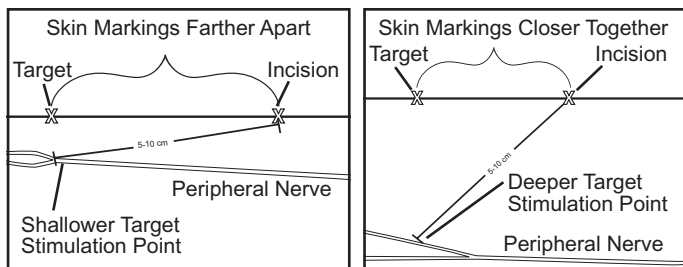

Figure 14: Establish Skin Markings
11. Identify the implant site for the StimRouter Lead. Sterile prep and drape the skin using institutional guidelines. Identify the skin area overlying the target stimulation point. Using a sterile marker, mark the skin superficial to the target stimulation point. Determine the approximate depth of the target stimulation point. Using a sterile marker, make a second mark to indicate the intended incision point for inserting the stimulation end of the lead, approximately 6 - 9 cm from the target stimulation point (see Figure 14). Placement of the incision mark will depend on the depth of the target stimulation point. As the depth of the target stimulation point increases, the two skin markings will be closer to each other.